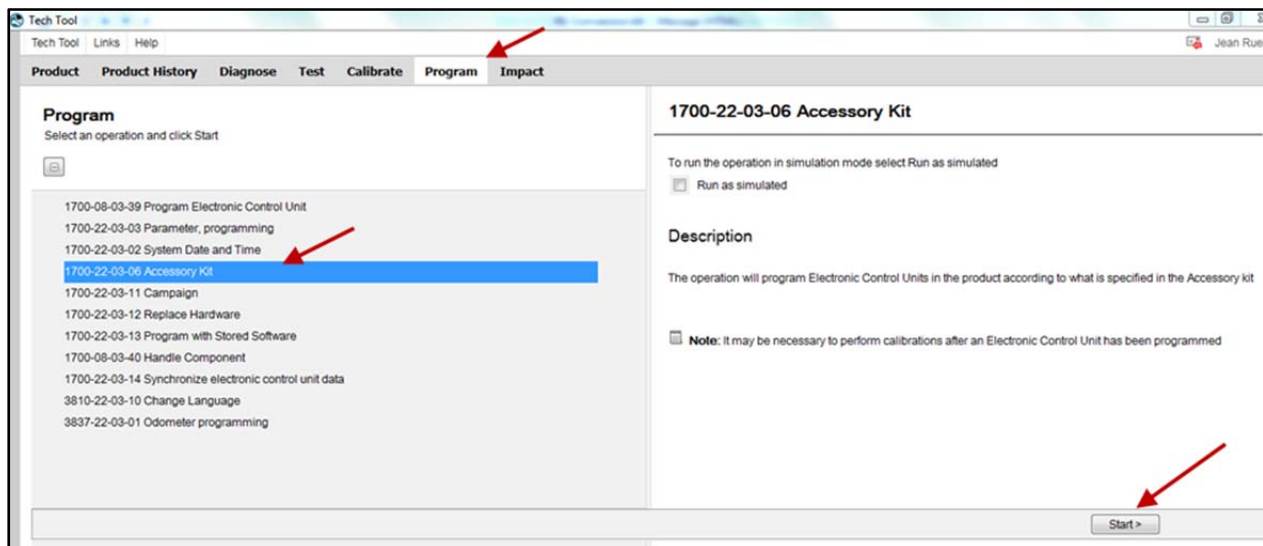

FIGURE 1
1. In Premium TechTool, select PROGRAM tab. In PROGRAM tab, select operation 1700-22-03-06 Accessory Kit then click START (FIGURE 1).